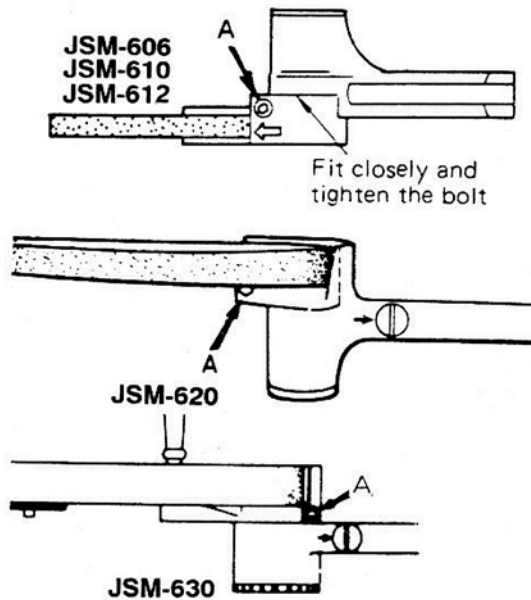
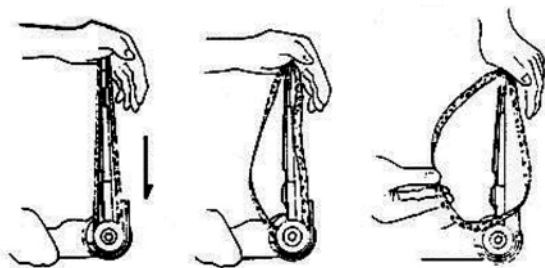

Figure 2
Figure 6
4. Adjust head to desired angle and tighten hex socket cap screw (A, Figure 2), with hex wrench supplied.
2. Loosen hex cap screw (A, Figure 2), turn head 90-degrees to the handle, and tighten screw to lock. See Figure 5.
2. Loosen hex cap screw (A, Figure 2), turn head 90-degrees to the handle, and tighten screw to lock. See Figure 6.
5. Push idle pulley assembly down and place belt on drive pulley. See sequence in Figure 6.
2. Loosen hex cap screw (A, Figure 2), turn head 90-degrees to the handle, and tighten screw to lock.